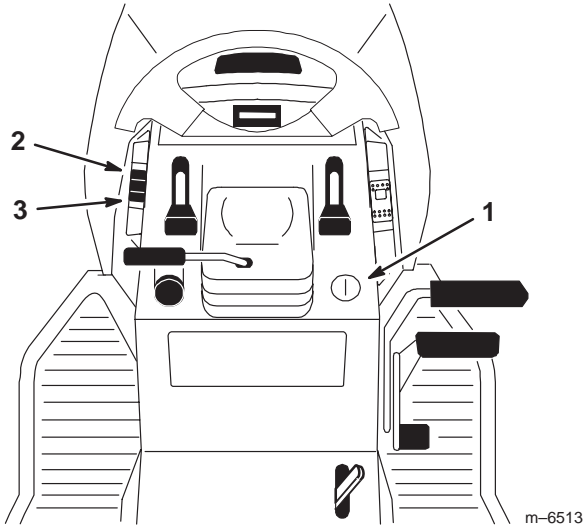

Figure 27
The attachment power lift (Fig. 27) is used to raise and lower attachments.
1. Turn key to the **on** or **run** position (Fig. 27).
2. Push the lift switch in the **up** direction to raise the attachment lift (Fig. 27). This will lift and hold the attachment in the up, or raised position.
2. Push the lift switch in the down direction to lower the attachment lift (Fig. 27). This will lower the attachment lift.